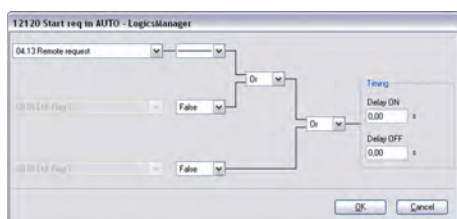

Fig. 161: LogicsManager function "Start req in AUTO"
3. ➤ Configure the LogicsManager function "Start req in AUTO" as shown in (Fig. 161).